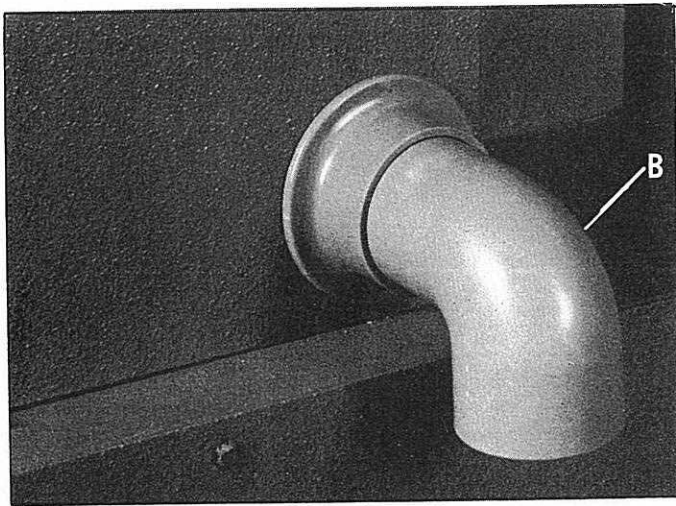

Fig. 33.
The 90° Plastic Elbow (B) Fig. 33, is attached to the rear of the belt and pulley guard and will deflect the chips downward into a suitable container.